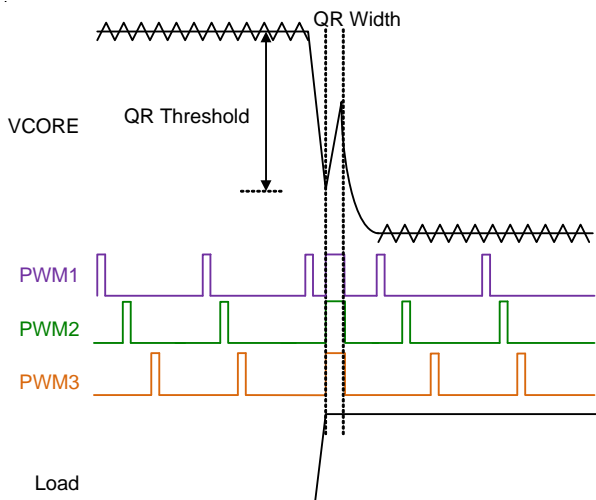

Figure 11. Quick Response Mechanism
When the transient load step-up becomes quite large, it is difficult for loop response to meet the energy transfer. Hence, that output voltage generate undershoot to fail specification. The RT8889C has Quick Response (QR) mechanism being able to improve this issue. It adopts a nonlinear control mechanism which can disable interleaving function and simultaneously to turn on one all UGATE pulse at instantaneous step-up transient load to restrain the output voltage drooping, Figure 11 shows the QR behavior.